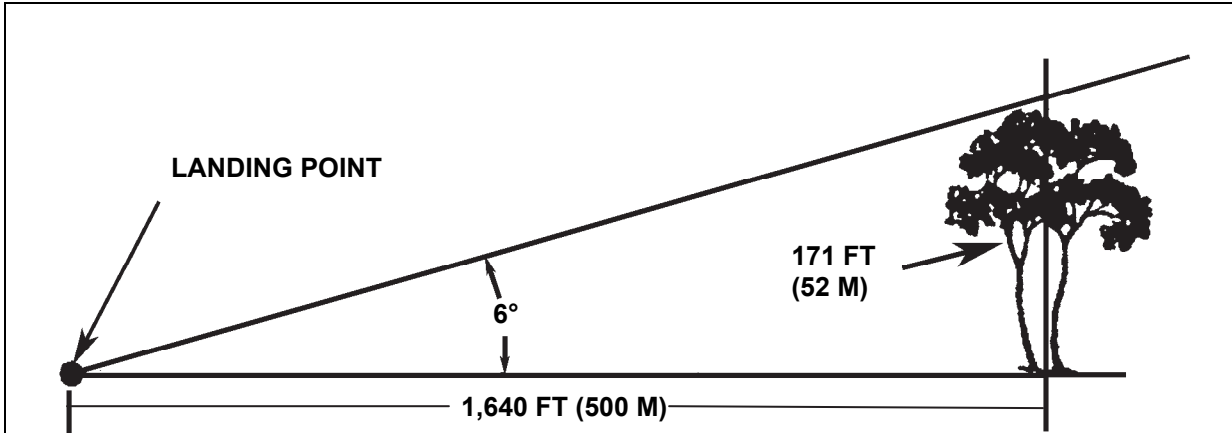

Figure 4-4. Maximum Angle of Approach (Daylight)
- Day Approach.** Within the day approach and exit path, the maximum obstruction angle should not exceed 6 degrees measured from the landing point center to a distance of 500 meters (1,640 feet) (figure 4-4). The maximum obstacle height at 500 meters is 52 meters (171 feet). The 10:1 ratio (a field expedient formula) is that for every meter of vertical obstacle, you must have 10 meters from the center of the landing point to the obstacle. That is, a landing point center must be 200 meters from a 20-meter (66-foot) tree if the helicopter must approach or depart directly over the tree.